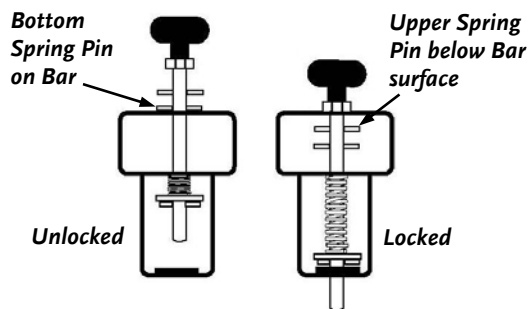

Figure 22b
2. Rotate the Handle again until the Bottom Spring Pin is 90° to the Slots in the Tow Bar and lower the Handle until the Bottom Spring Pin (**Figure 22b**) rests on the Tow Bar. This is the unlocked position.
NOTE: If the Tow Bar alignment is correct and the Locking Pin is properly positioned, the Upper Spring Pin will not be showing. If the Upper Spring Pin is still visible, adjust the Tow Bar angle by moving the Mower until the Locking Pin can be pushed down into place and the Upper Spring Pin is no longer visible (**Figure 22b**).